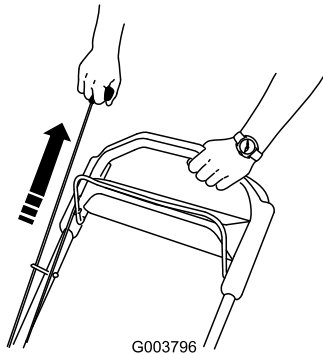

Figure 14
- Pull the recoil starter from the operating position (Figure 14).